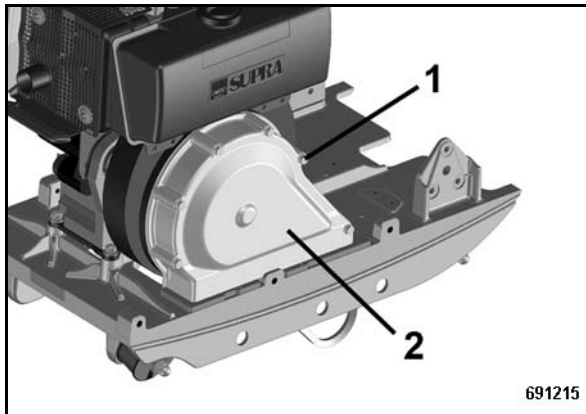
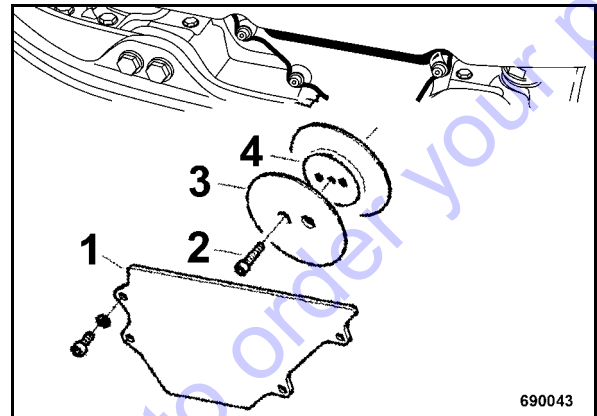

Fig. 70
Fig. 72
- Unscrew fastening screws (1) (Fig. 70) for the cover and take off cover (2).
- Disassemble the safety cover (1) (Fig. 72).
- Loosen the screws (2) and take off the V-belt pulley (3).
- Assemble the cover (2) (Fig. 70).